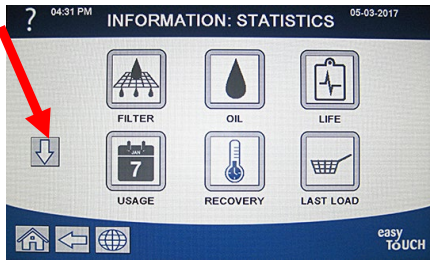

Figure 23
- 6. Press the down arrow button (see Figure 23).